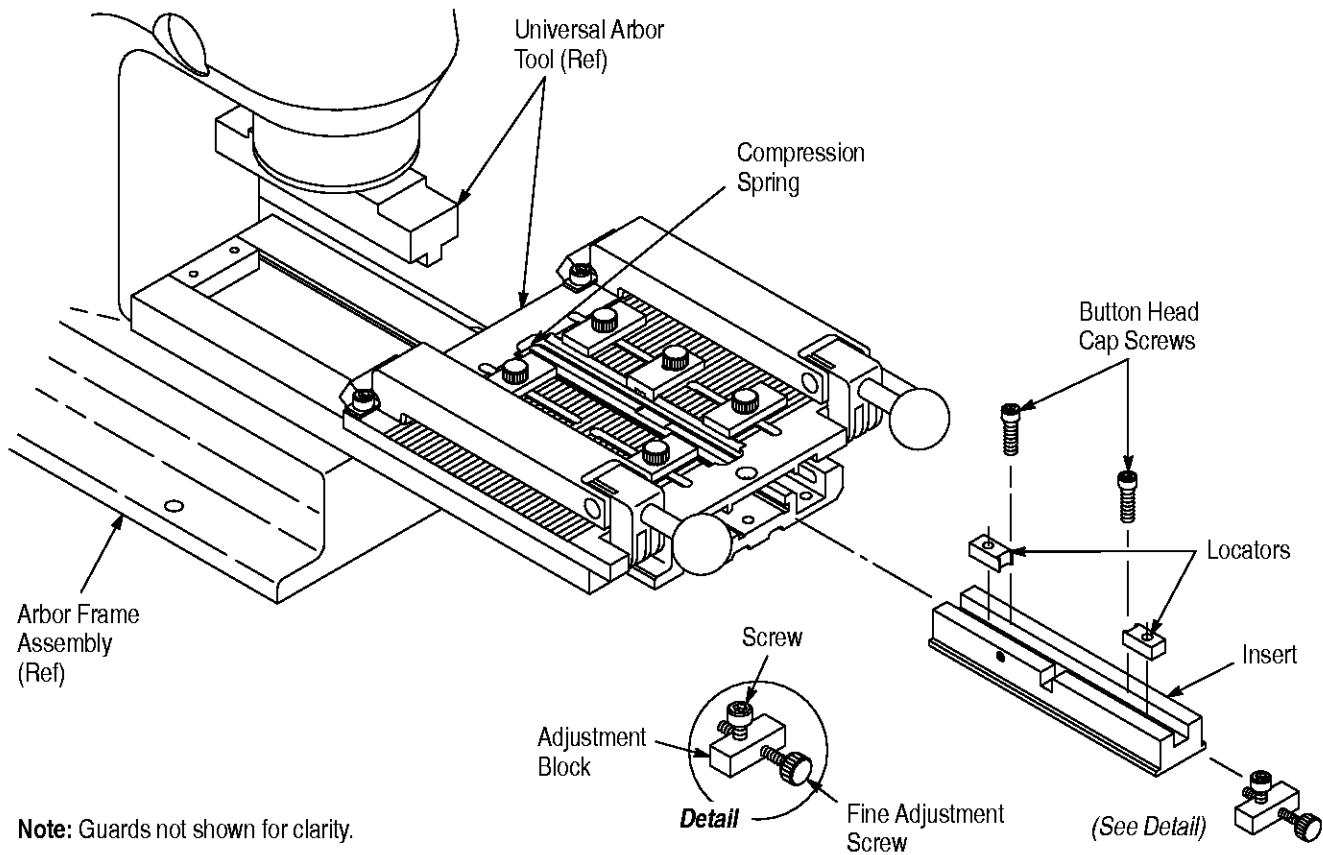

Figure 2
1. Position the locators, with the notched edges facing inward, onto the insert. Install, but do not tighten, the button head cap screws just enough to hold the locators in place. Refer to Figure 2.
4. Remove the screw that secures the adjustment block to the universal arbor tool, then remove the adjustment block. Slide the insert onto the base assembly until it is against the compression spring. See Figure 2.
5. Re-assemble the adjustment block. **Make sure** to orient the block so that the fine adjustment screw is closest to the right side and bottom side of the block. See detail in Figure 2.